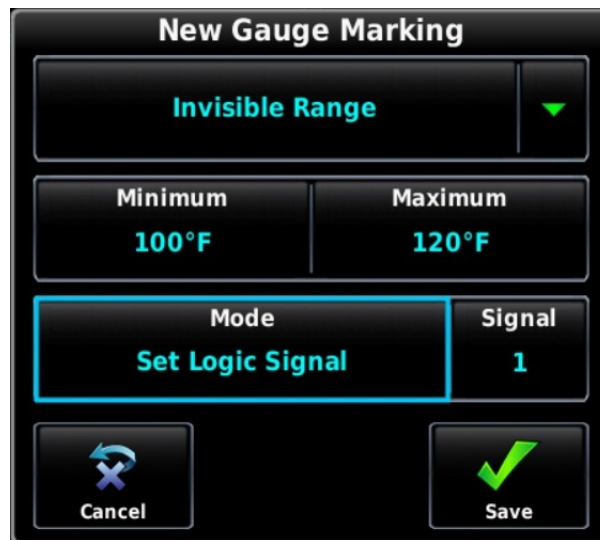

Figure I-6 Invisible Range
- a) From the Oil Temperature configuration page, add a new gauge marking, and set the gauge marking type to Invisible Range (Figure I-6).